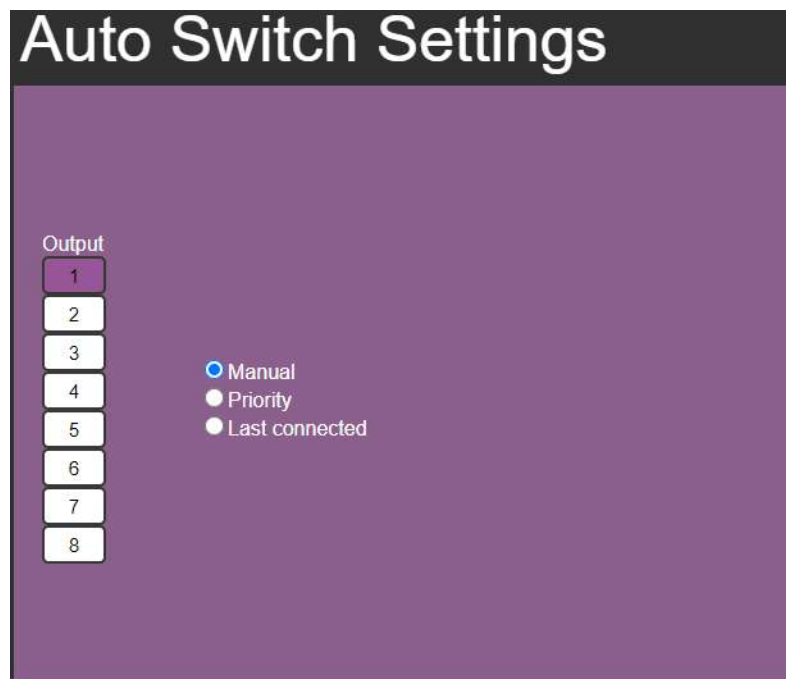

Figure 40: Auto Switch Settings Page
- In the Manual mode (see Figure 40), the outputs are switched manually to the selected output.